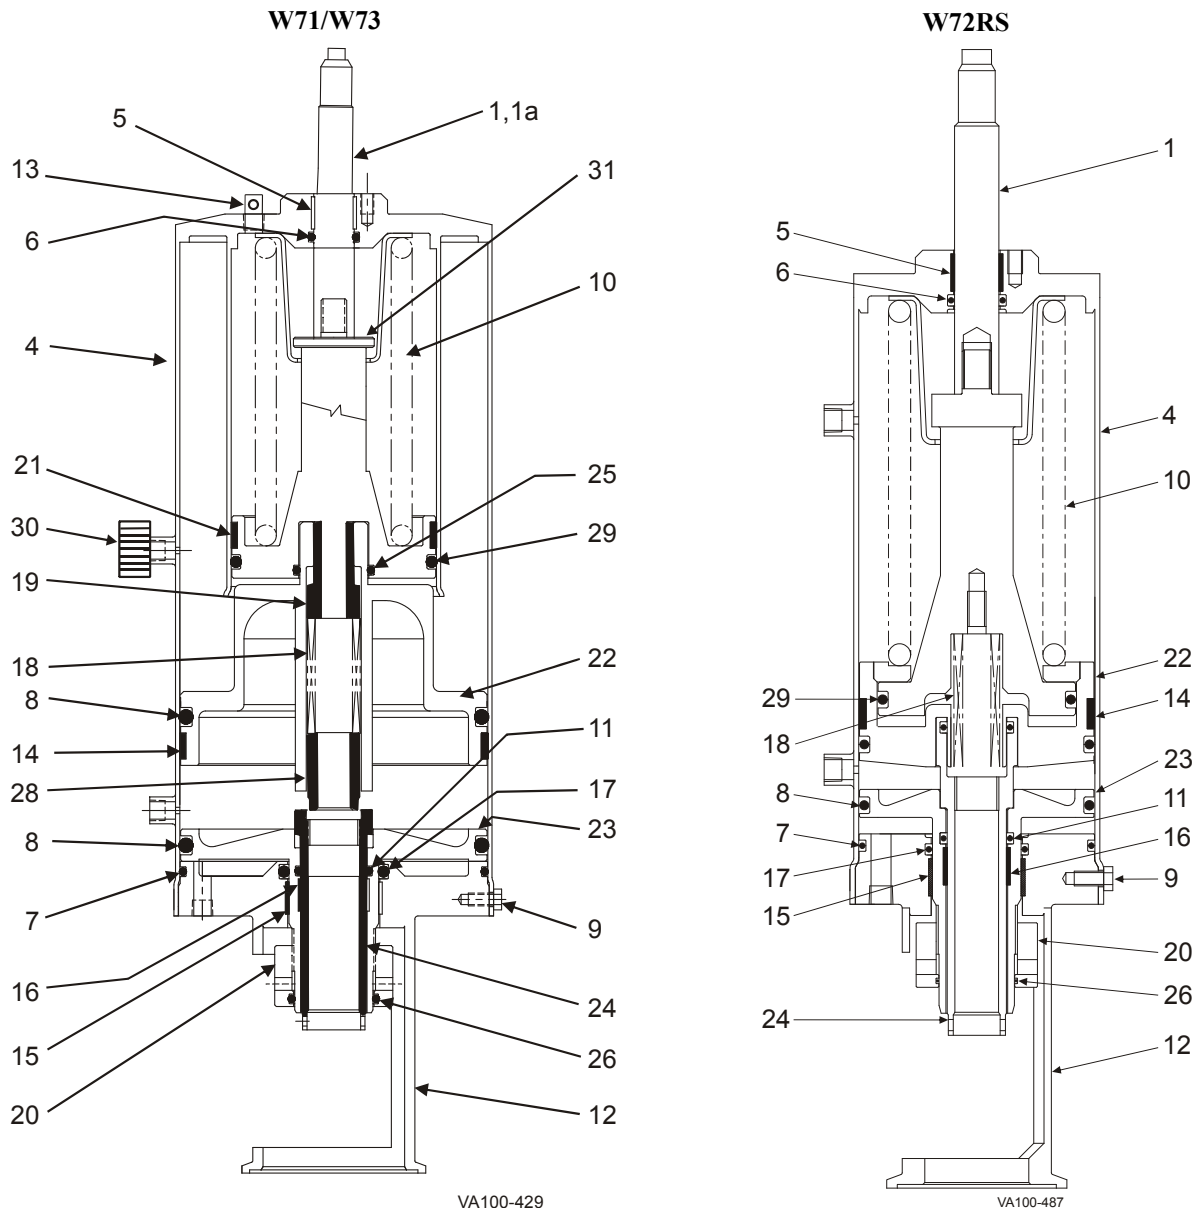

Figure 24 - Actuator Assembly (Seat Lift Valve)
1. For seat lifting valves, remove the cap screws (Figure 24, item 9) and remove the lower cartridge (yoke, item 12; adjusting nut, item 20; adjusting sleeve, item 24; and upper seat piston, 23).
3. Remove the small spring (Figure 24, item 18). On W71/ W73 valves, also remove the bushing (Figure 24, item 28).
4. Pull out the upper cartridge (main piston, item 22; lower seat spring and piston, item 10), by carefully threading in the lower stem to pull it. Do not bend the lower stem.
5. Inspect the nine o-rings (Figure 24) and replace them if they are worn or damaged.
6. Inspect the five bearings on W71/W73 actuators or four bearings on W72RS actuators (Figure 24). If the bearing does not extend slightly above the edge of the metal surface, replace it.